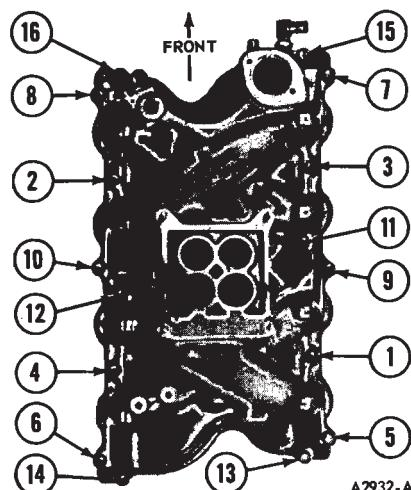

FIG. 9—Intake Manifold Torque Sequence
4. Position new intake manifold gaskets on cylinder heads, carefully aligning holes in gaskets with holes in cylinder heads. Coat underside of front and rear seals with quick-drying adhesive sealer and fit seals to cylinder block, aligning seal tabs in notches in gaskets. Apply bead of non-hardening sealer over four (4) junction points of seals and gaskets.
5. Carefully lower intake manifold into position over four (4) studs in ends of cylinder heads. When intake manifold is in place, run finger around seal area to be sure seals are in place. If seals have shifted, remove manifold and reposition seals.
6. Be sure intake manifold gaskets are properly aligned. Then install attaching bolts and nuts snugly to manifold. Torque bolts and nuts in sequence (Fig. 9) to specifications to compress gaskets and seals. Then repeat sequence, torquing bolts and nuts to same specifications.
14. Fit wiring harness into three (3) clips at inboard edge of left valve rocker arm cover and connect to all terminals.